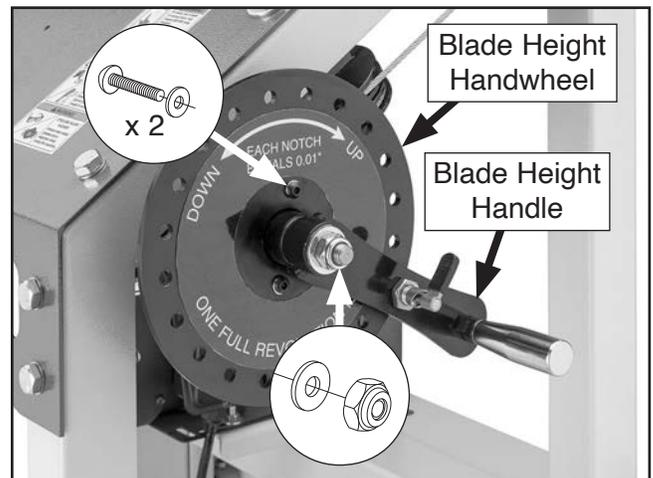

Figure 99. Location of blade height handwheel fasteners.
2. Remove lock nut, (2) button head cap screws, and (3) flat washers shown in **Figure 99** to remove blade height handle and handwheel.